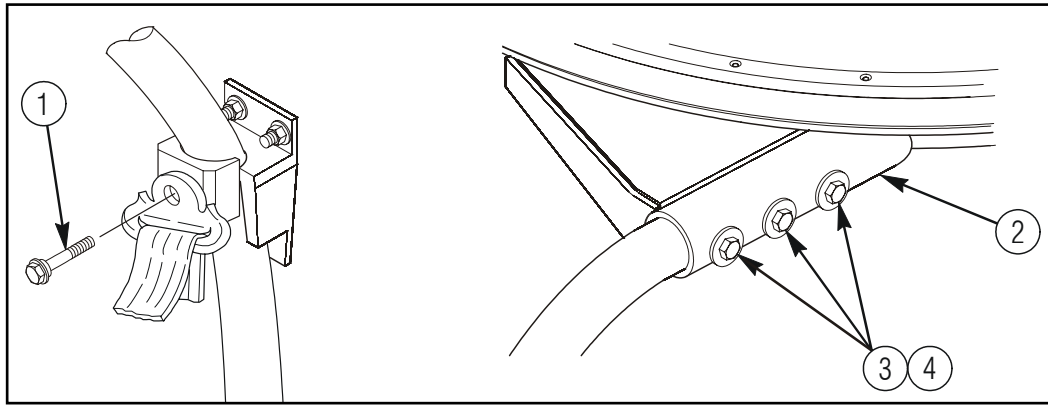

Figure 14a.
20. Remove seat belt shoulder bolt (1) and apply 8030-01-025-1692 sealing compound to threads. Reinstall and tighten seat belt shoulder bolt (1) to 40 lb-ft (54.2 N·m). Refer to figure 14a.
21. Remove three capscrews (3) and washers (4) from turret support assembly (2) and apply 8030-01-025-1692 sealing compound to threads of capscrews (3).
Reinstall three capscrews (3) and washers (4) and tighten capscrews (3) to 37 lb-ft (50.2 N·m). Refer to figure 14a.